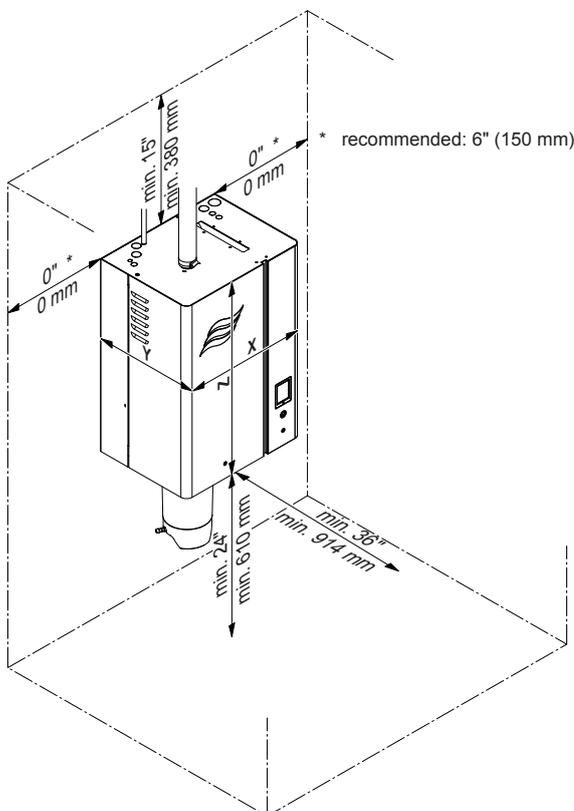

Figure 11: Clearances Nortec RS
- Allow adequate clearances around the humidifier for ease of maintenance. Although the Nortec RS humidifier requires no side clearance, Condaair recommends minimum clearances of 6 in (150 mm) on the side. A clearance of 24 in (610 mm) between the humidifier and the ground is also required. Refer to Figure 11 and Table 10 on page 26, which also show the clearances required for the Nortec RS Space unit. Observe all local and national installation codes. Condaair is not responsible for any installation code violations.